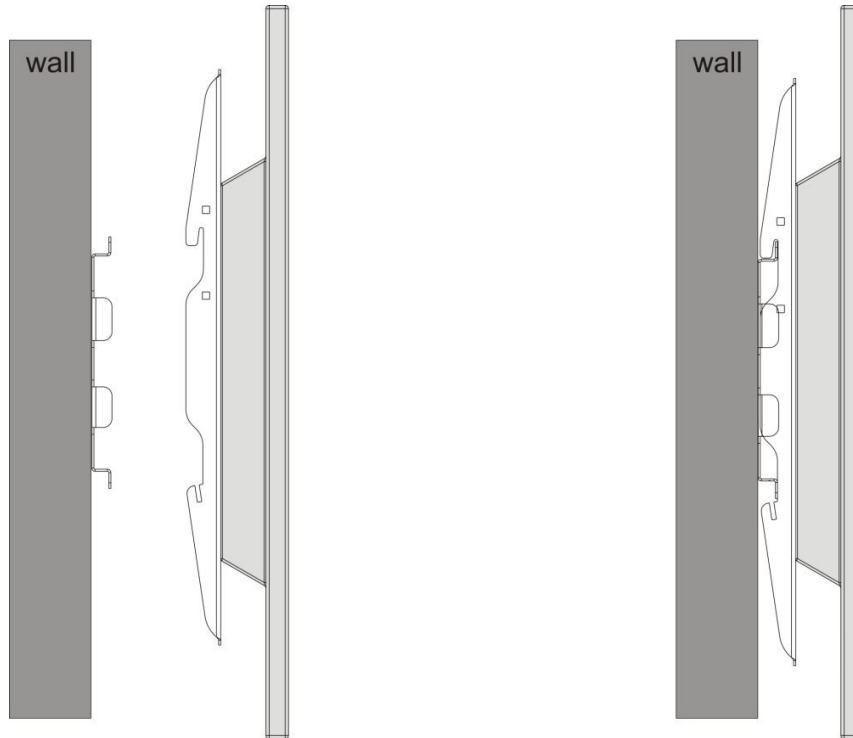

Fig. 7
- After the wall mounting bracket has been safely secured to the wall, carefully lift your TV (with 2 people) and hook the top hooks over the top of the wall plate rail, as shown in Fig. 7.